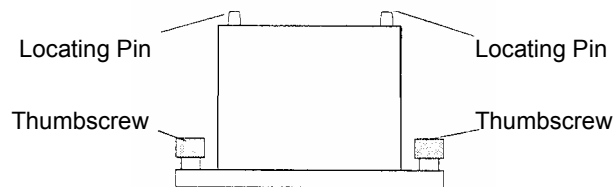

Figure 10 Fitting the plinth to the baseplate in the sample compartment
1. Lower the plinth so that the two locating holes slip onto the two locating pins on the baseplate in the sample compartment, as shown in Figure 10.